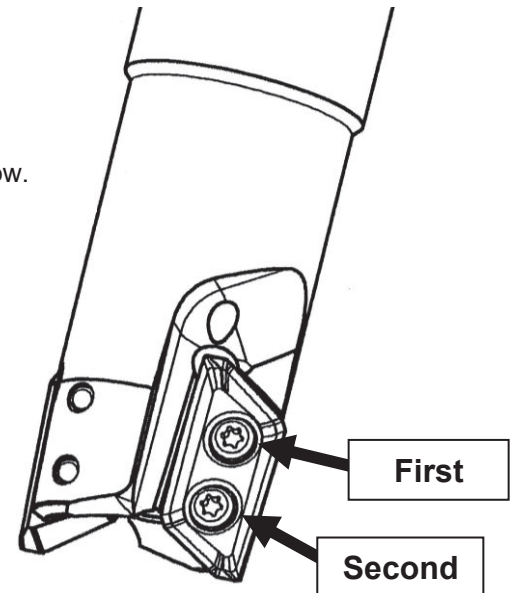

Fig. 1 Tightening order
- Tighten the screws according to the order shown in Figure 1.